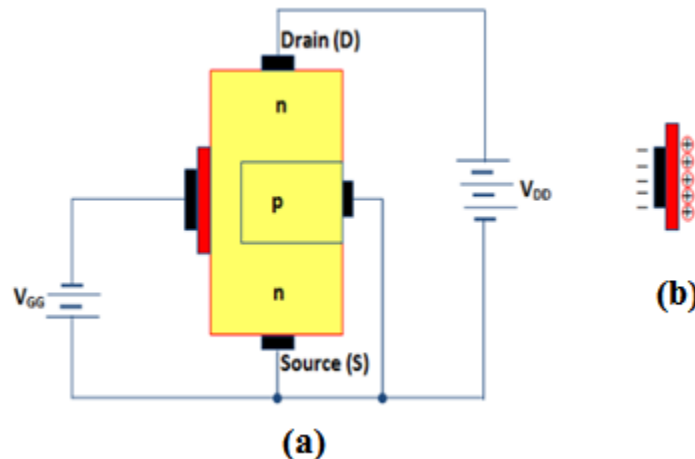

Fig. 4.18 (a) Operation of n channel D- MOSFET (b) Capacitor
- Fig.4.18 (a) shows the circuit for operation of n-channel D-MOSFET.
- Gate voltage is negative, hence there are electrons on the gate as shown in fig. 4.18 (b).
- Since the gate voltage is negative, it induces positive charges (free holes) in the channel by the capacitor action as shown in fig. 4.18 (b).